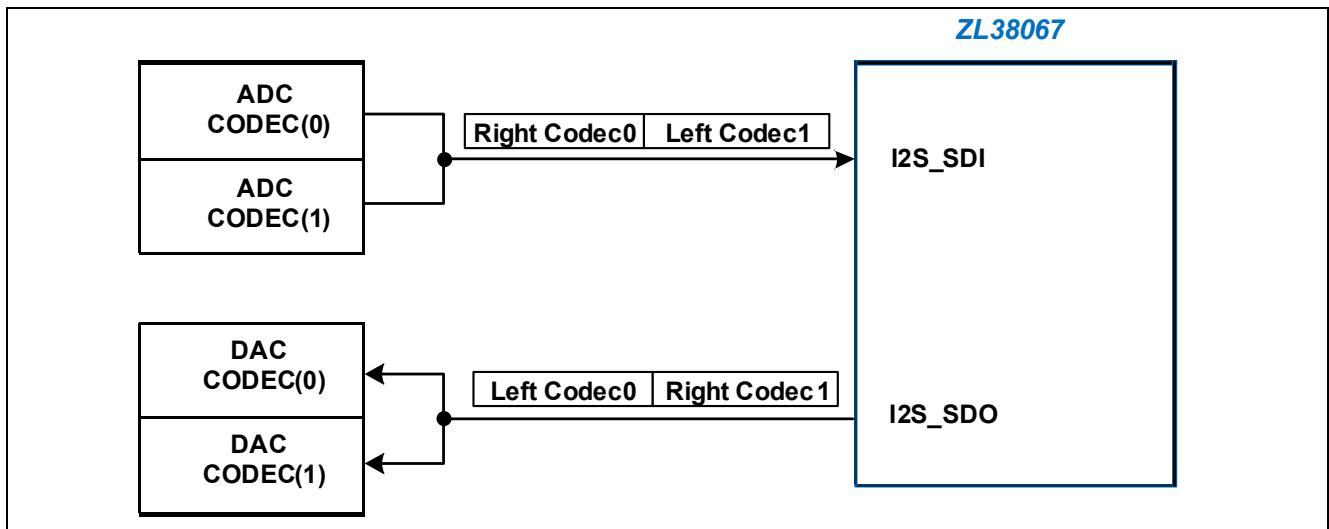

Figure 11 - Dual Codec Configuration – Full Duplex Communications Firmware
Each I2S interface can support one dual channel Codec (Figure 11) through the Codec's I2S interface. The four 16-bit channel processing capacity of the DSP is spread across the two input channels from the ADCs of Codec(0) and Codec(1), and the two output channels to the DACs of Codec(0) and Codec(1).